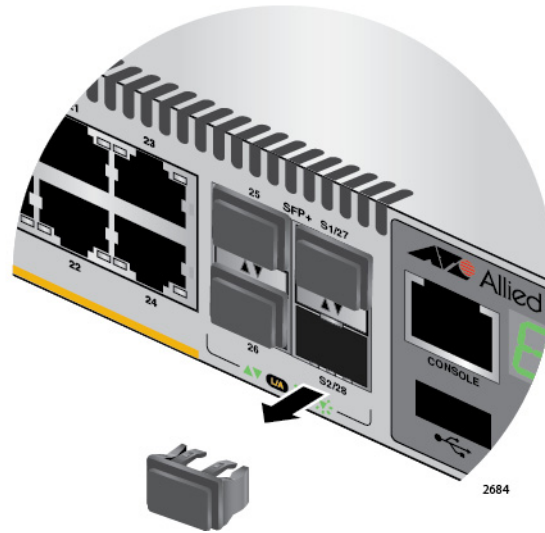

Figure 52. Removing the Dust Plug from the S2 Slot
5. Remove the dust cover from the S2 slot in the next switch in the stack as shown in Figure 52 on page 97.